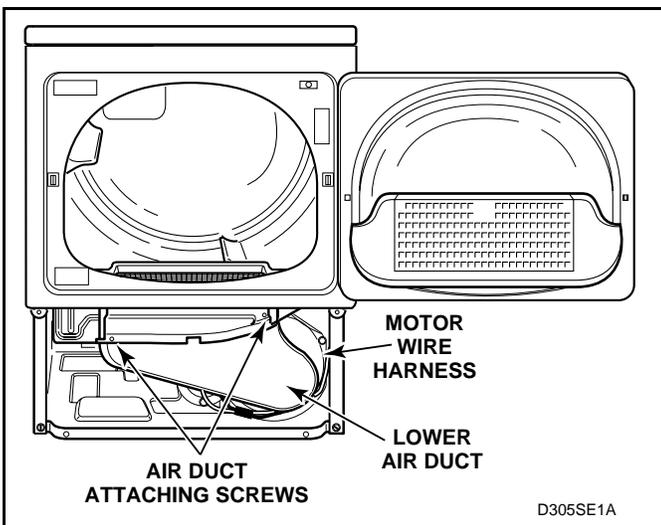
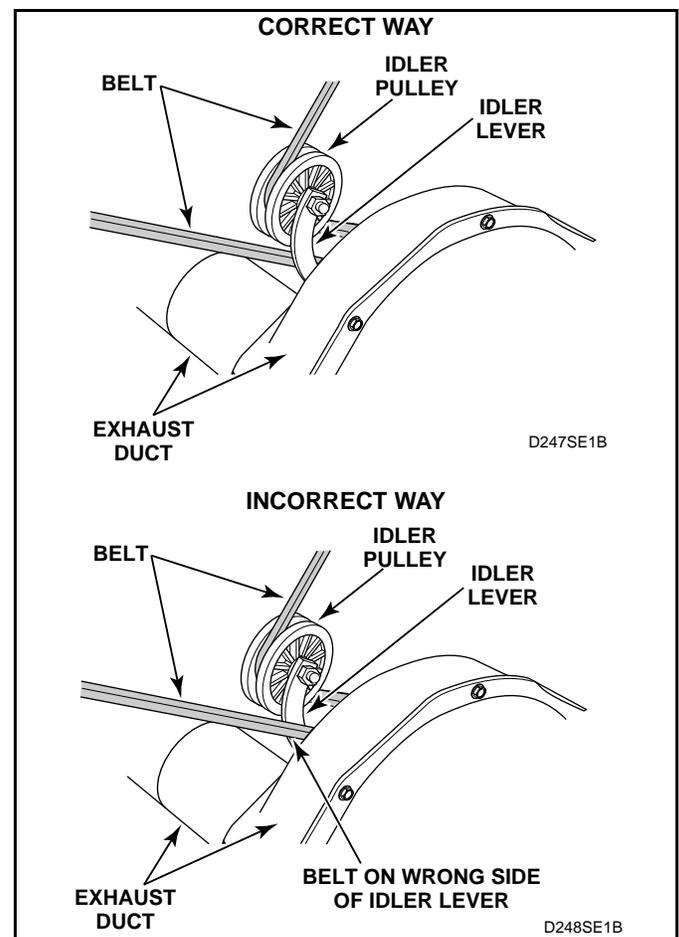

Figure 40
Figure 42
- (3.) Remove three screws holding lower duct to upper duct and remove lower air duct. See *Figure 40*.
- Remove screws holding lower air duct to upper air duct and remove lower air duct. See *Figure 40*.
- Remove cylinder belt from idler and motor pulleys. See *Figure 42*.
IMPORTANT: When reinstalling motor and exhaust assembly, be sure wire harness on right side is clipped to motor mounting bracket and is routed along dryer base (between motor mounting bracket and right side of cabinet). See *Figure 40*. Tab on rear of motor mounting bracket must be slid into slot in dryer base. Be sure the belt has been installed on the correct side of the idler lever. See *Figure 42*.
- e. Disengage belt from motor and idler pulley. See *Figure 42*.
- e. Disengage belt from motor and idler pulleys. See *Figure 42*.